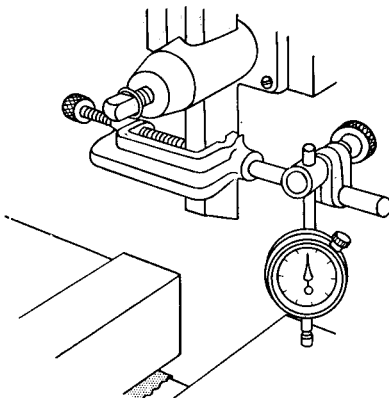

Fig. 2-31.
6. Arrange the indicator as shown in Fig. 2-31.